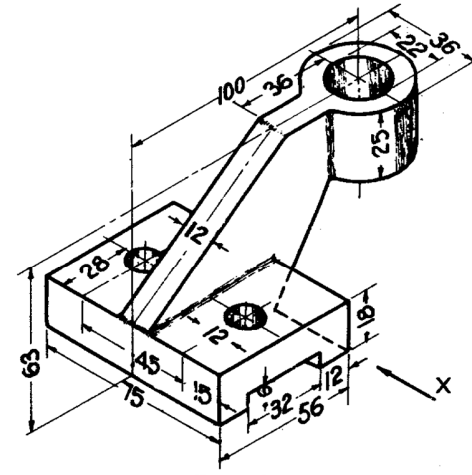

FIG. 18-50
(28) Fig. 18-50: (i) Front view. (ii) Both side views. (iii) Top view.